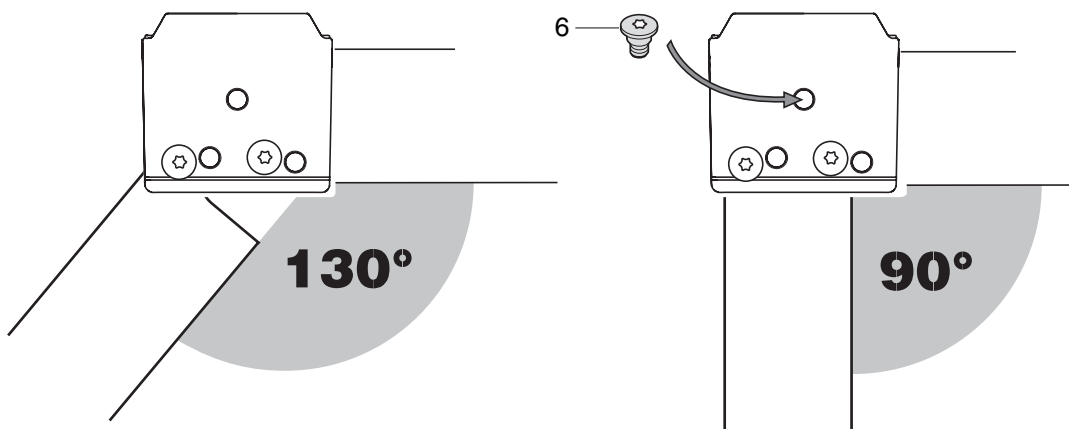

Figure 7
## Door Opening Angle - Figures 7, 8
- **Insert** attached screw (6) in the **upper** hinge as shown in **Figure 7**.